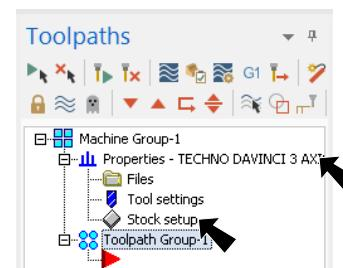

Fig. 47
Step 3. If Machine Group is **not** displayed in the Toolpaths Manager, **Fig. 47** on the Machine tab **MACHINE**, click Machine  > Default from the menu.
Step 4. Expand **Properties** in the Toolpaths Manager and click **Stock Setup**, **Fig. 47**.